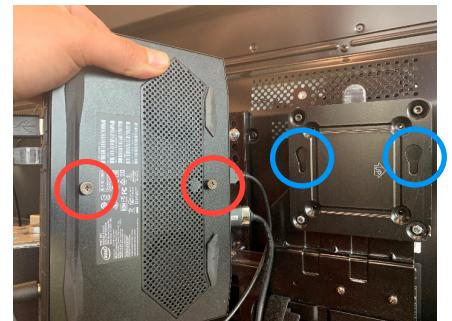

Figure 11 - Computer and computer mount
- a. The computer has two pins attached, circled in red in Figure 11, that fit into the slots on the computer mount, circled in blue in Figure 11, located on the back of the monitor bracket.